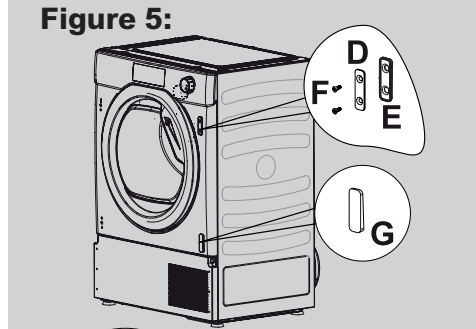

Figure 5:
- Mount the plate (D) on the right or left-hand side, depending on your installation requirements (**figure 5**).
- Place the plastic support (E) under the plate and fix it in position with screw (F) (**figure 5**).
- Snap mount cap (G) in the lower position (**figure 5**).